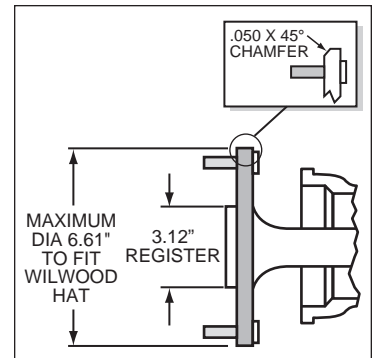

Figure 3. Axle Flange Maximum Dimension
- Axle center register diameter is 3.12", Figure 3.
- Maximum axle flange diameter must be no larger than 6.61" w/.050" x 45° chamfer, Figure 3.